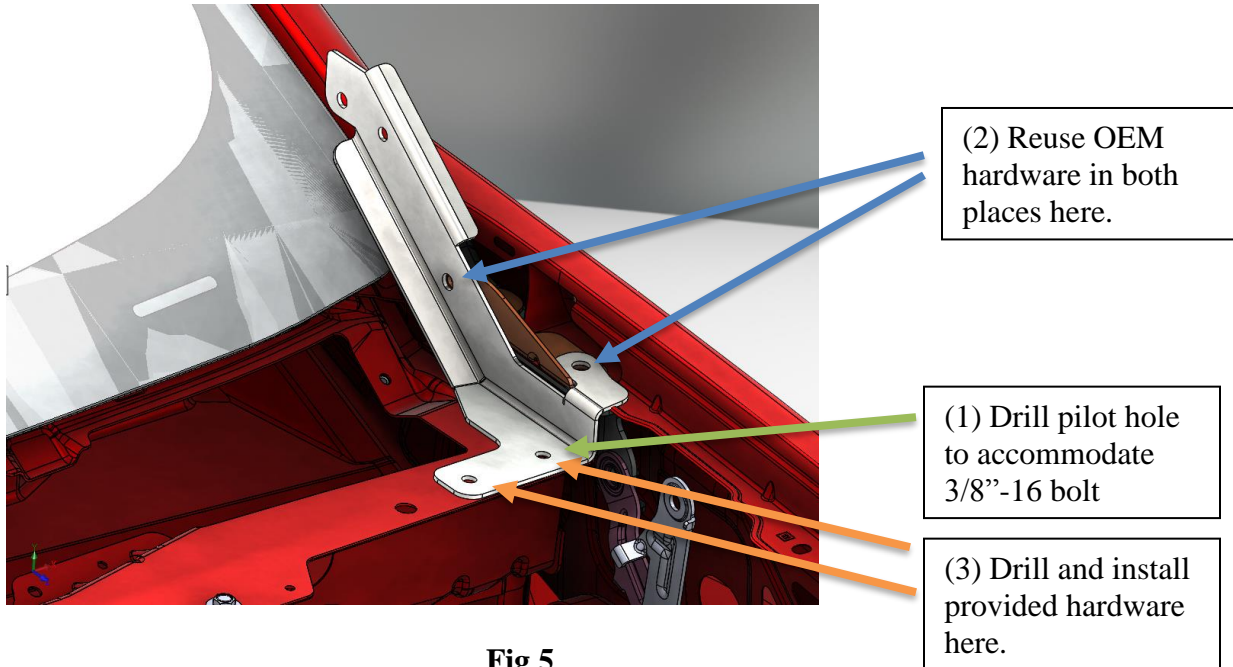

Fig 5
- Drill hole to 3/8" using factory hole as drill pilot as shown in **Fig 5** item (1).
- Position the driver side bracket as pictured in **Fig 5**.
- Loosely install the two factory bolts as shown in **Fig 5** item (2).
- Install the outer 3/8"-16 zinc bolt, washer, and Nylock nut in the hole that was drilled out as indicated in **Fig 5** item (1).
- Mark and remove bracket or just drill out the remaining hole indicated in **Fig 5** item (3).